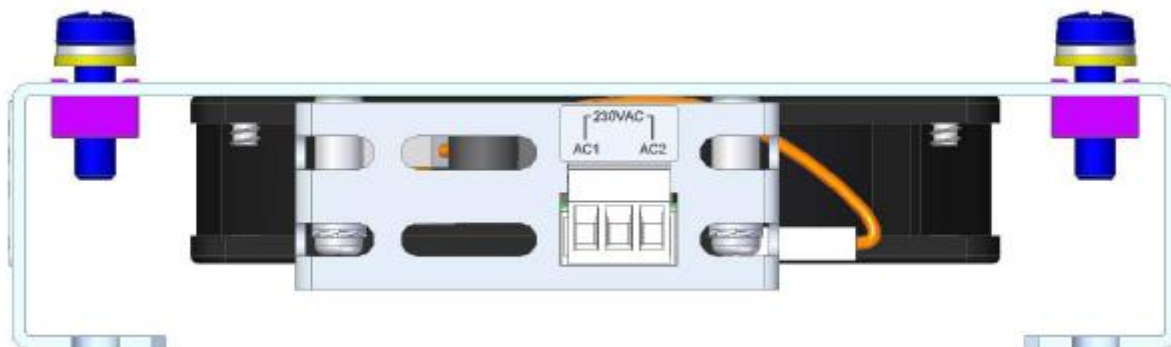

Figure 39: Fan power connection
Step 5: Connect power to the fans. Refer to Figure 39 – connect **LINE** to **AC1**, **NEUTRAL** to **AC2**.